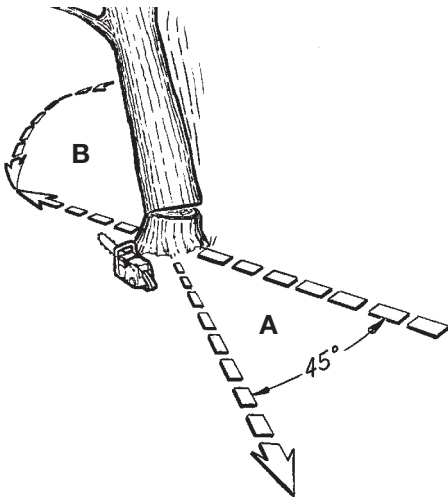

Fig. 12
**WARNING:** A retreat path (A) should be planned and cleared as necessary before cuts are started. The retreat path should extend back and diagonally to the rear of the expected line of fall, as illustrated in Fig. 12.
**NOTE:** Direction of fall (B) is controlled by the notching cut. Before any cuts are made, consider the location of larger branches and natural lean of the tree to determine the way the tree will fall.
**WARNING:** As the felling cut gets close to the hinge, the tree should begin to fall. When tree begins to fall, remove saw from cut, stop engine, put chain saw down, and leave area along retreat path (Fig. 12).